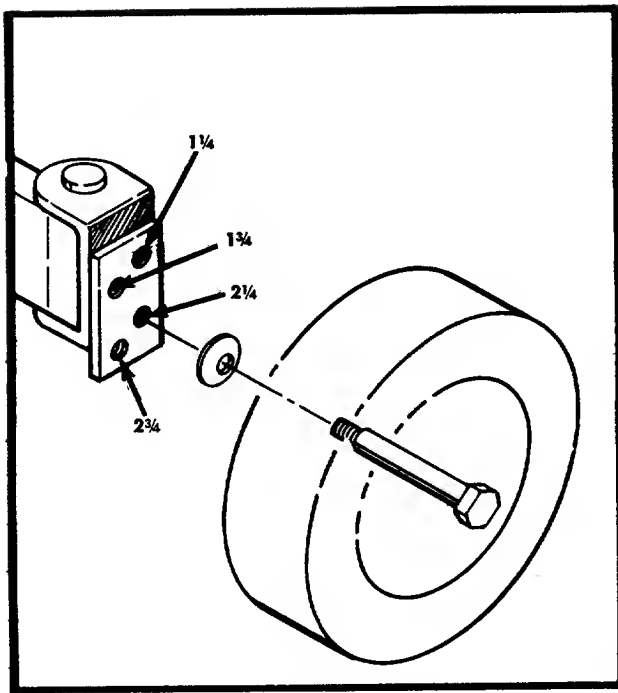

FIGURE 10. FRONT WHEEL ADJUSTMENT
- H. The height adjustment for the cutting blade is made by removing the front axle bolts and moving the front wheels to one of the four cutting positions. See figure 10.